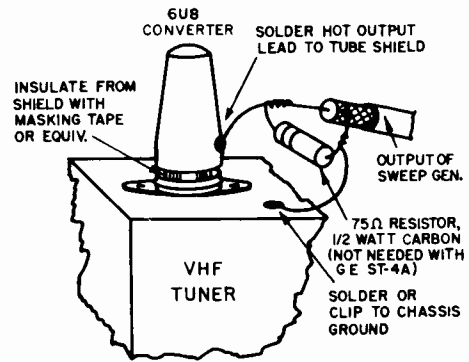

FIG. 2. I-F SWEEP JIG
2. Connect sweep generator to capacity type jig shown in Figure 2. If General Electric sweep equipment is used, the indicated resistor should be omitted.